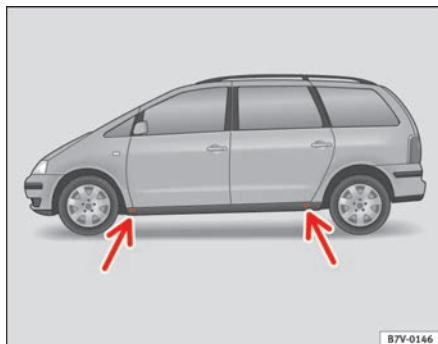

Fig. 160 The jacking points
1. Look for the jacking point ⇒ **fig. 160** (arrow) ⇒  closest to the tyre which has to be changed.
The jack may be applied only at the jacking points shown ⇒ **fig. 160**. The front jacking point is approx. 11 cm from the wheel arch. The rear jacking point is approx. 14 cm from the wheel arch. Notches on both sides in the sills show where the jacking points are under the vehicle.